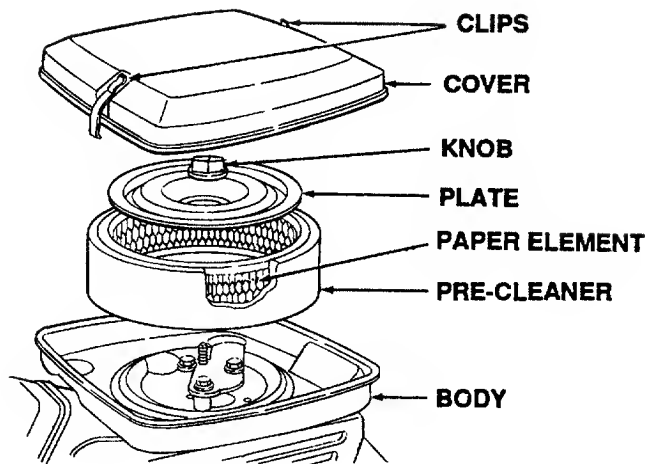

Figure 26. Air Cleaner Assembly.
1. Unhook the clips on both sides of the air cleaner cover and remove the air cleaner cover (See Figure 26).
2. Remove the foam precleaner by sliding it up off the paper element (See Figure 26).